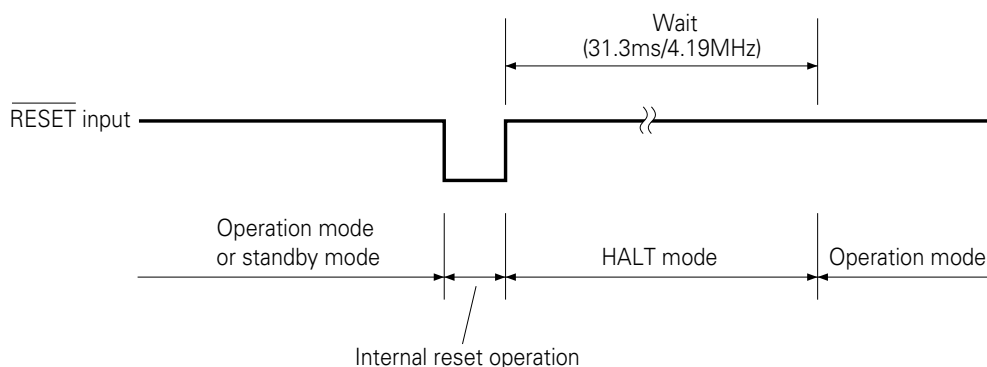

Fig. 8-1 Reset Operation by $\overline{\text{RESET}}$ Input
When the $\overline{\text{RESET}}$ signal is input, the μPD75316(A) is reset and each hardware is initialized as indicated in Table 8-1. Fig. 8-1 shows the reset operation timing.